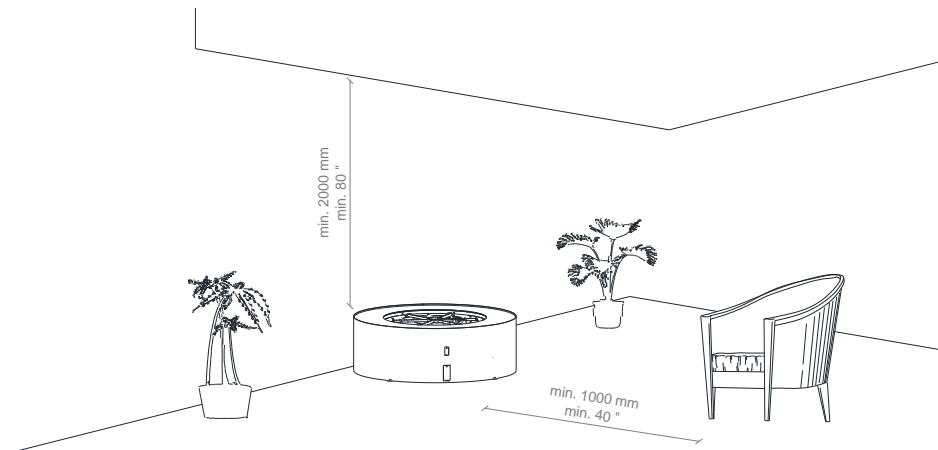

Figure 1: Minimum distance to flammable materials
- This appliance must be kept away from flammable materials during use. Do not place any combustible materials within a distance of 1 m of Galio Star Corten / Black and 2 m over the appliance (Figure 1).